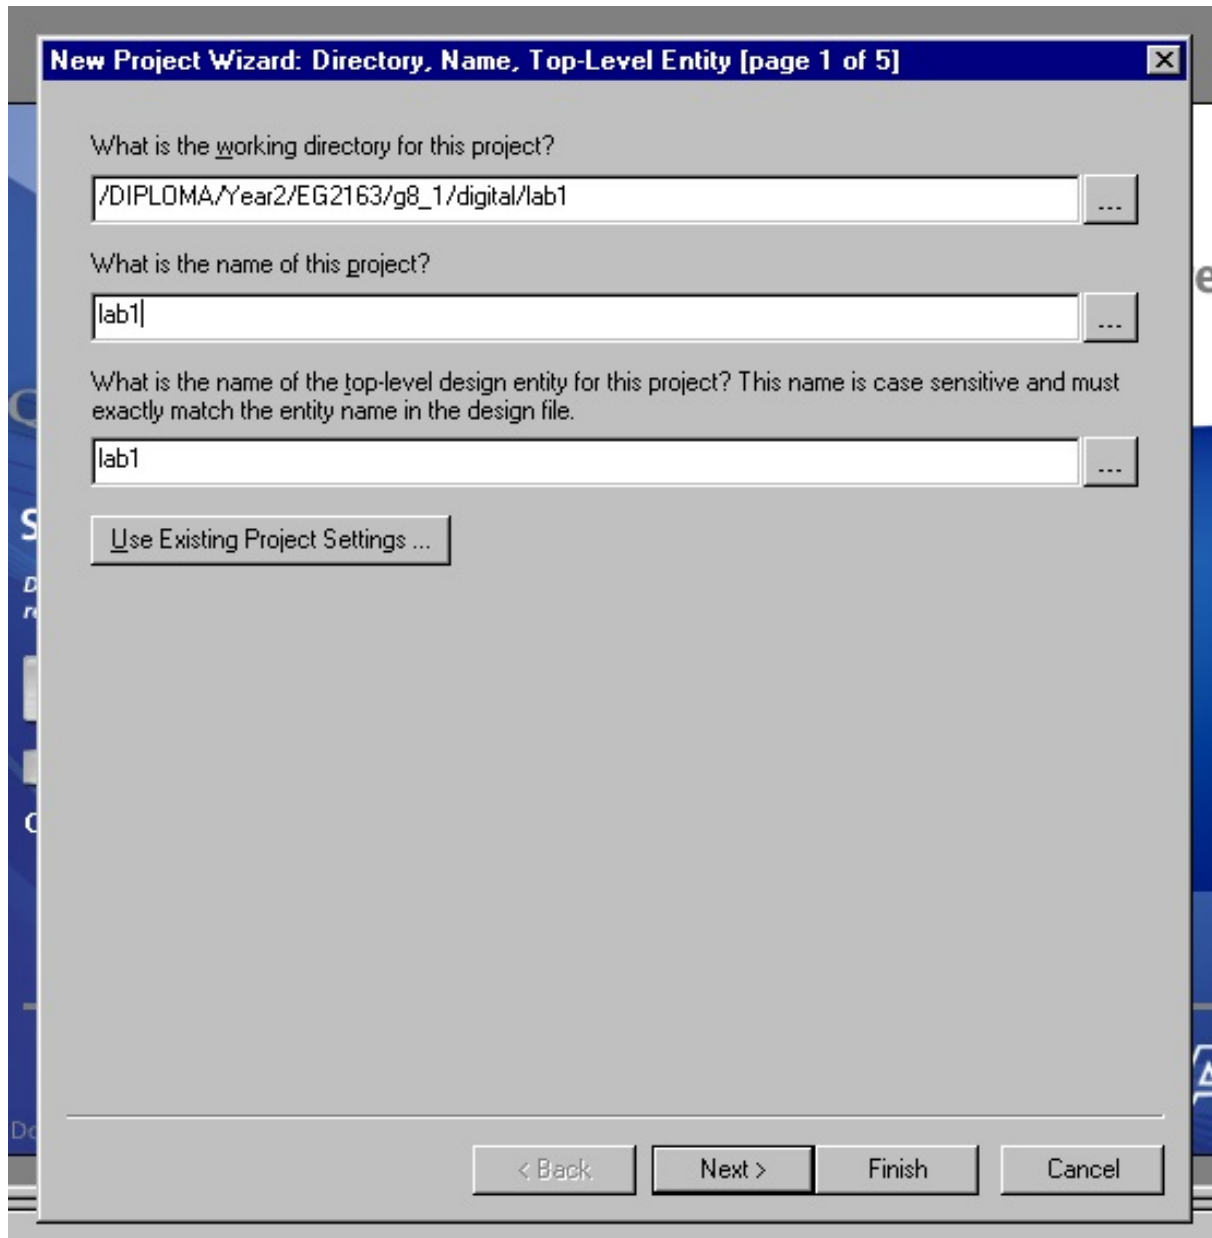
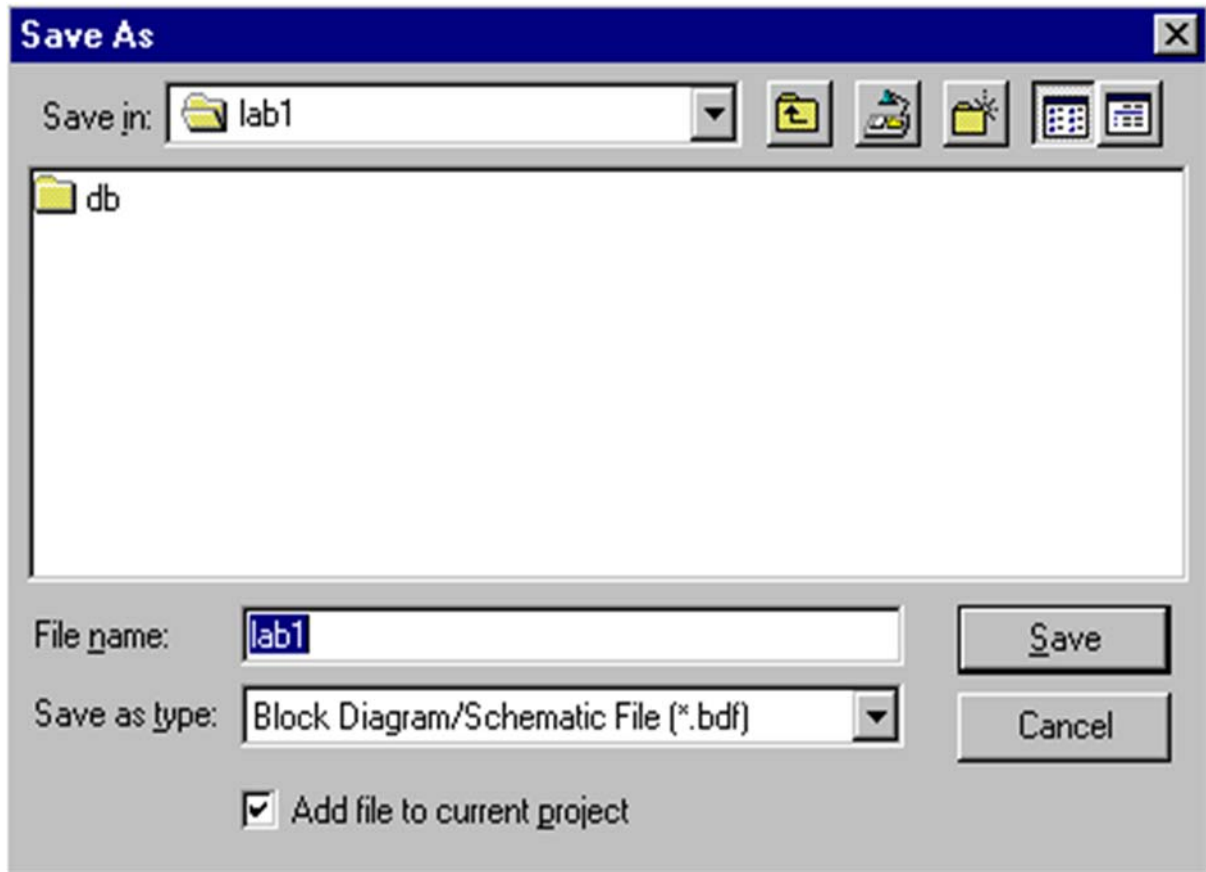

Figure 1.2 Creation of a new project
Figure 1.11 Specify a name for Block Diagram/Schematic File
1. Select **Creat a New Project (New Project Wizard)** or **File > New Project Wizard** to reach the window in Figure 1.2, which asks for the name and directory of the project.
Set the working directory to be `.../digital/lab1`. The project must have a name, which is usually the same as the top-level design entity that will be included in the project. Choose *lab1* as the name for both the project and the top-level entity, as shown in Figure 1.2. Click **Next**.
The first step is to specify a name for the file that will be created. Select **File > Save As** to open the pop-up box depicted in Figure 1.11. In the box labeled (Save as type:) choose Block Diagram/Schematic File (\*.bdf). In the box labeled (File name:) type *lab1*, to match the name given in Figure 1.2, which was specified when the project was created. Put a checkmark in the box (Add file to current project). Click **Save**, which puts the file into the directory *lab1* and leads to the Graphic Editor window displayed in Figure 1.12.